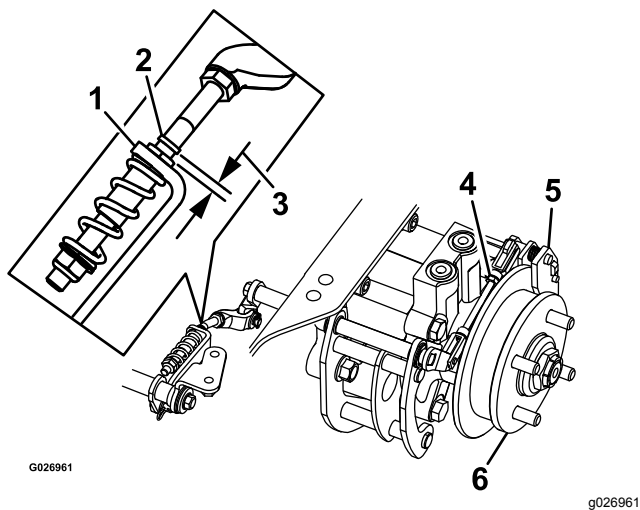

Figure 86
7. Check to see if there is a visible gap between the L-bracket and the linkage stop (Figure 86).